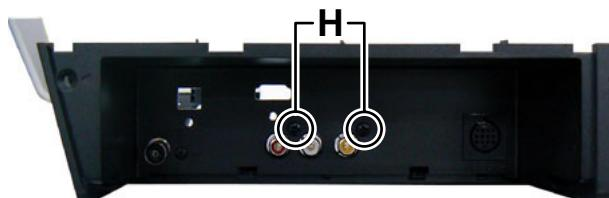

Fig.10
### 3.1.7 Removing the Main board (See Fig.10, 11, 12)
- (1) Remove the two screws **H** attaching the Main board. (See Fig.10)